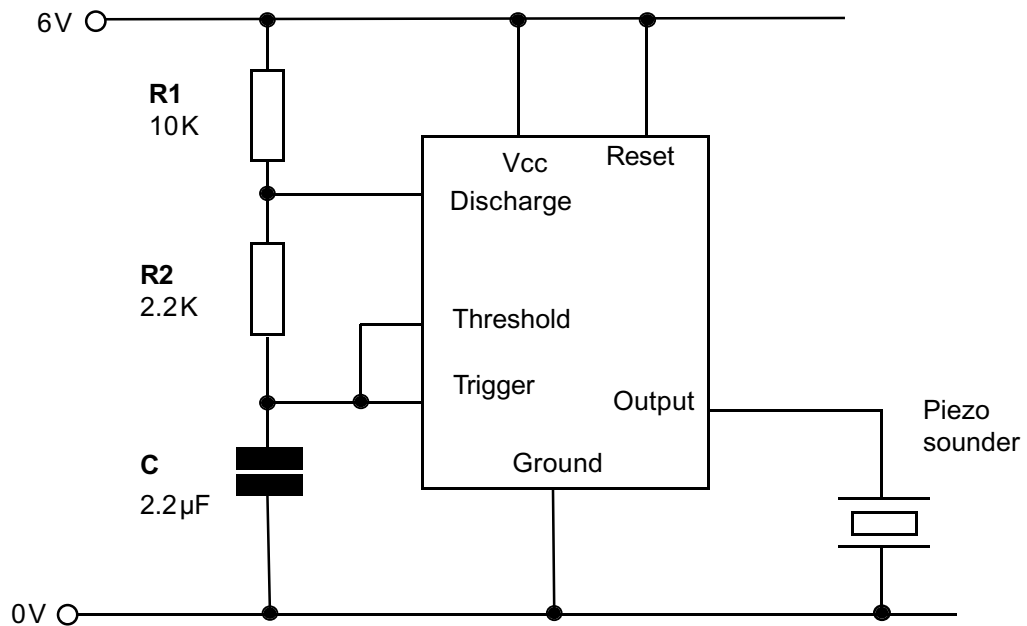

Fig. 10(b)
- (i) State whether the circuit shown in Fig. 10(b) is an open loop or closed loop system and justify your answer. [2]
- (ii) Calculate the output frequency of the circuit shown in Fig. 10(b) given that $T = C(R1 + 2R2)/1.44$. [3]
- (iii) Explain the operation of the circuit shown in Fig. 10(b). [6]